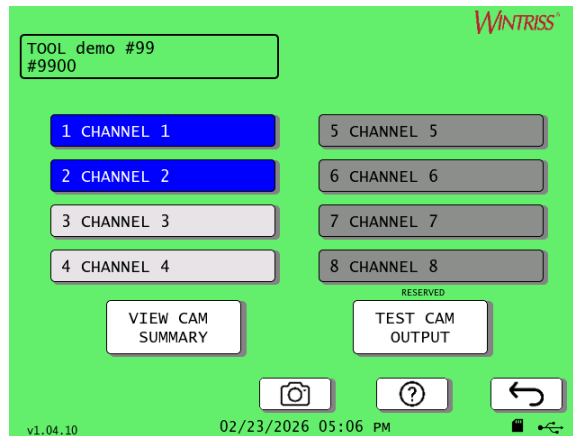
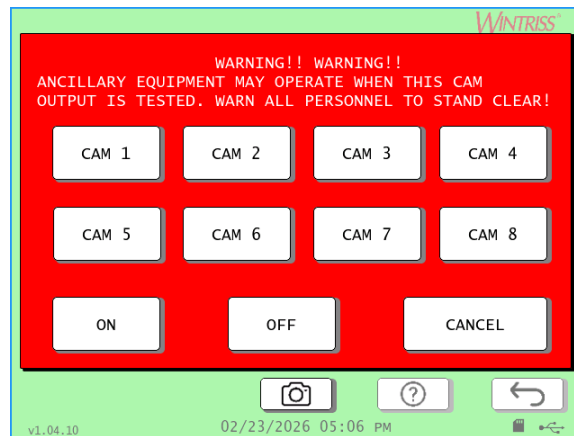

Figure 4-24. Cam Switch Menu
Figure 4-26. Cam Output Testing Screen
1. On the Cam Switch Menu, Figure 4-24, previous section, press TEST CAM OUTPUT. The Cam Output Testing screen appears, Figure 4-26.